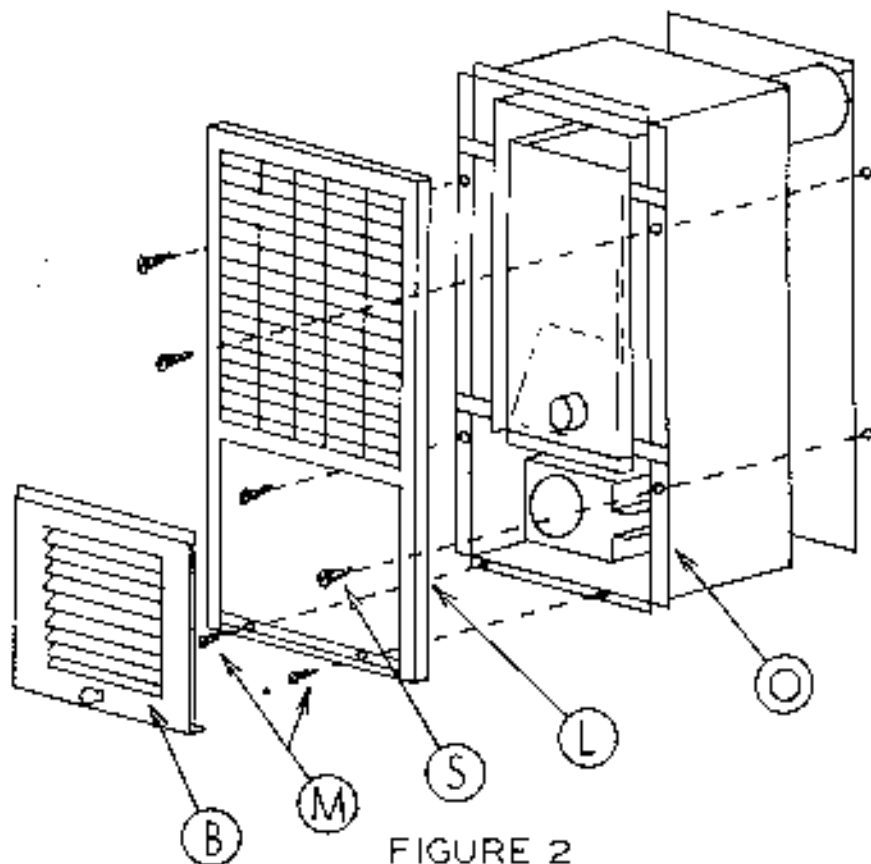

FIGURE 2
Pull forward on controls access door (B) on heater front (L), (Fig. 2), and remove door. Install rough-in box into rectangular opening in wall. Spacers on sides and top are provided to assure proper placement. Do not bend down. Secure rough-in box to wall with four screws (S) from parts bag (Fig. 2). Secure heater front (L) with metal screws (M). Attach knob (A) to controls access door with ¼" long machine screw. Install controls access door (B) into heater front (L).